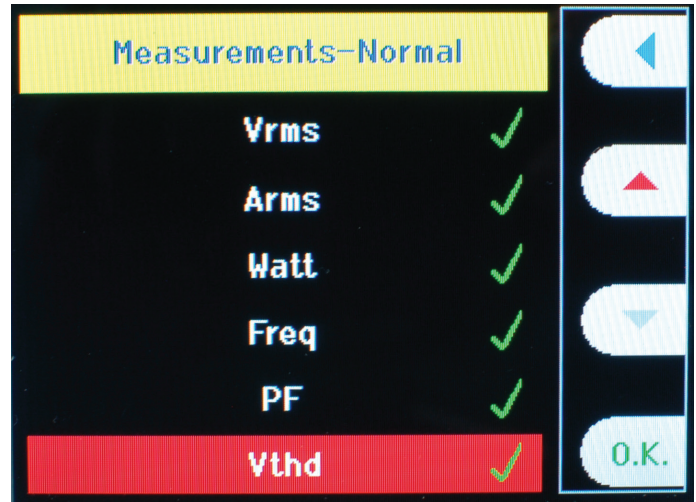

Figure 9. Select Athd parameter Window.
- Scroll down the measurement menu using the down scroll key and select the required measurement (Athd in this example), as shown in Figure 9.